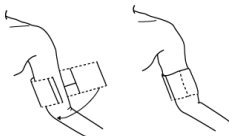

Figure 4.2.1 Cuff applying
2. Apply the cuff to the patient's upper arm following the instructions below (Figure 4.2.1).